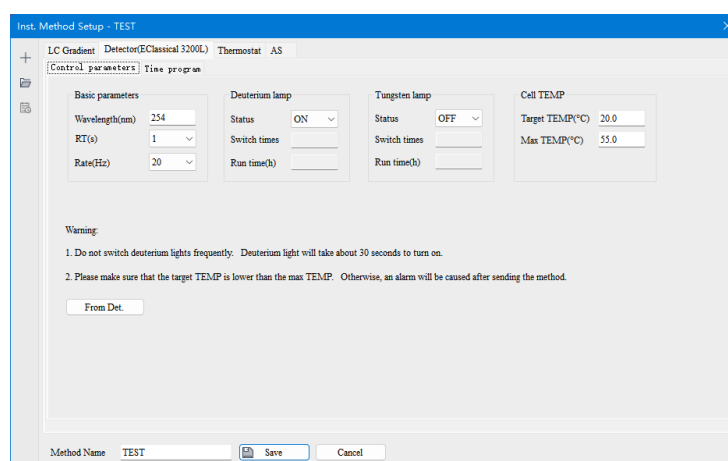

Fig. 3-16 Light Status Settings
- 2) Select the "control parameter" tab in the instrument method setting dialog box to set the light source status (on or off), as shown in the red box in Fig. 3-16.